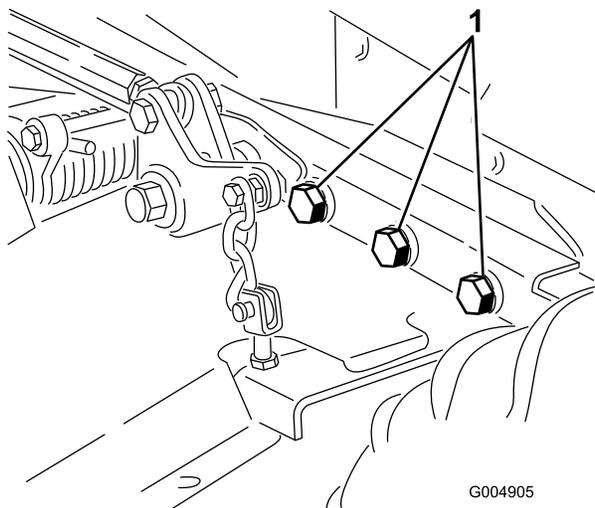

Figure 66
4. Check all fasteners for looseness and tighten them as necessary. Especially torque the 6 bolts securing the mower deck frame to the traction unit (Figure 66) to 359 N-m (265 ft-lb).